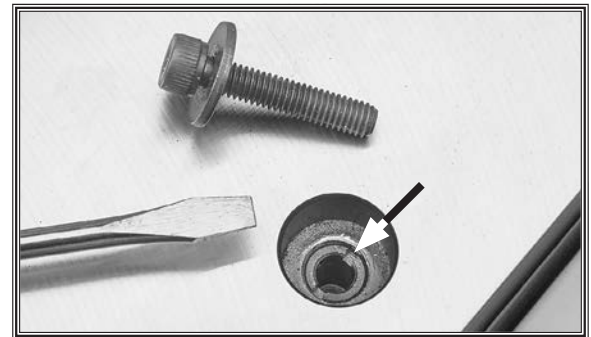

Figure 44. Leveling adjuster.
- Use a flat head screwdriver to rotate leveling adjuster(s) (see **Figure 44**) under straightedge until straightedge touches cutterhead body while lying flat across outfeed table.